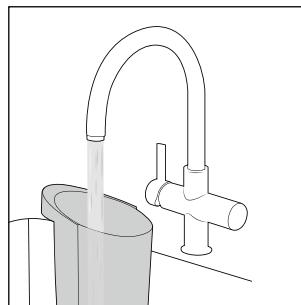

Fig. 23
- ◆ Rinse the waste water tank **②** in hot running water (see fig. 23).